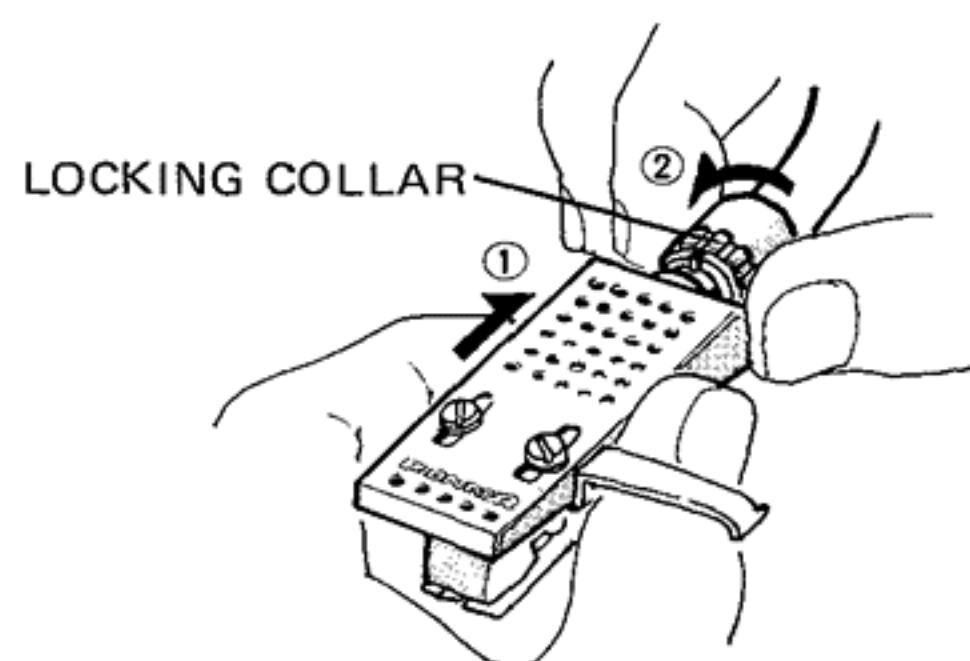

Fig. 8
5. Place the headshell on the end of the tonearm. Turn the locking collar to tighten it in place (Fig. 8).